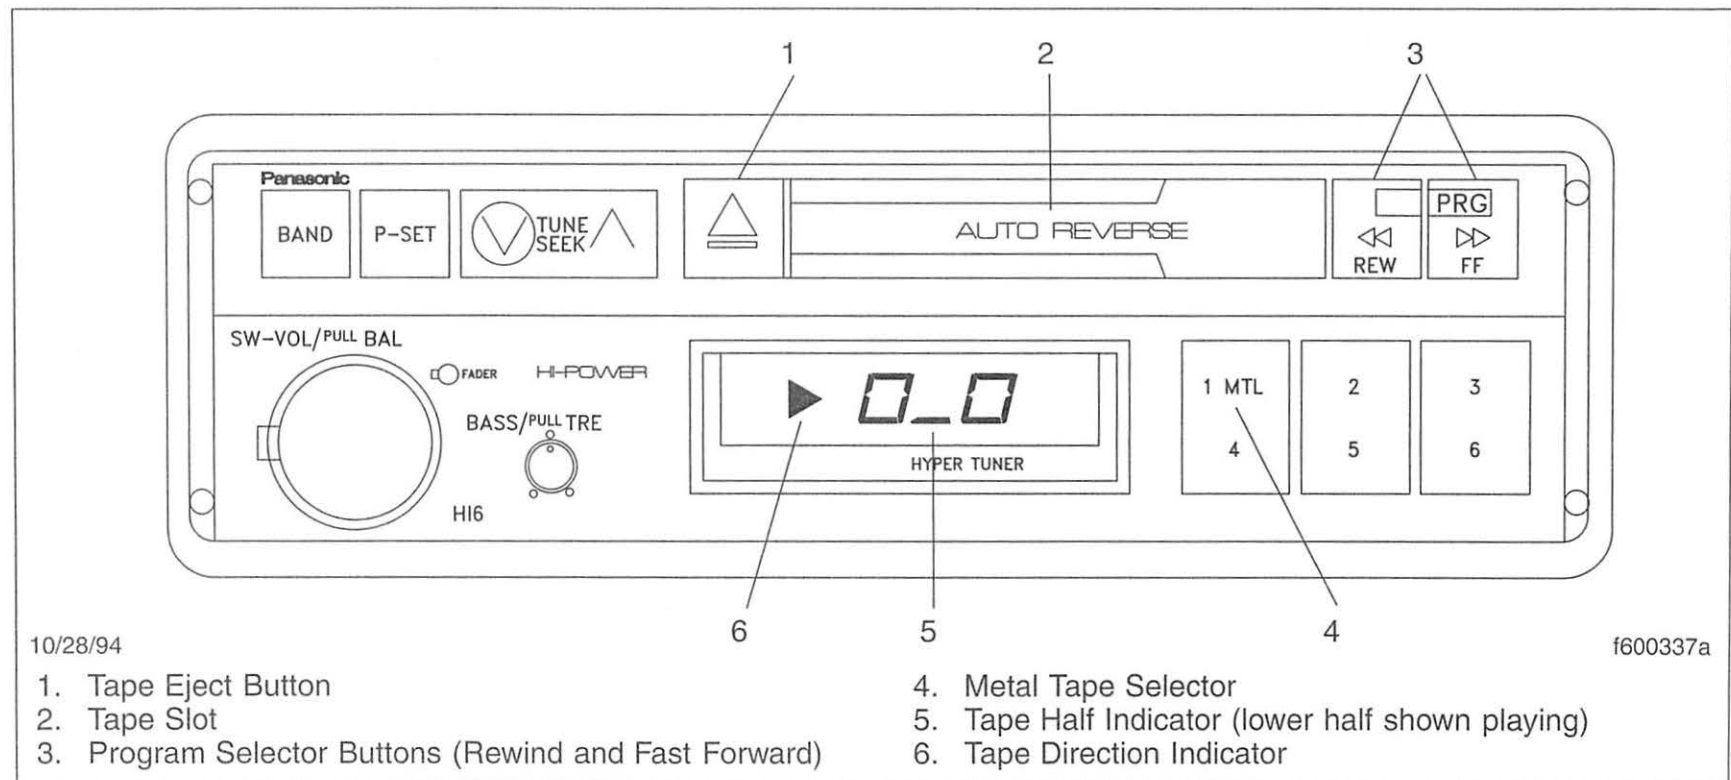

Fig. 2.24, Cassette Player Controls
Stereo Cassette Player Operation (Fig. 2.24)
If you are playing a metal tape, press the left-hand preset station rocker button marked "Mtl" (**Fig. 2.24**, Ref. 4).
4. To eject a cassette, push the eject button (**Fig. 2.24**, Ref. 1). The cassette will pop out, and the radio will come back on. To protect the cassette from contamination, always remove it from the slot when it's not being played.